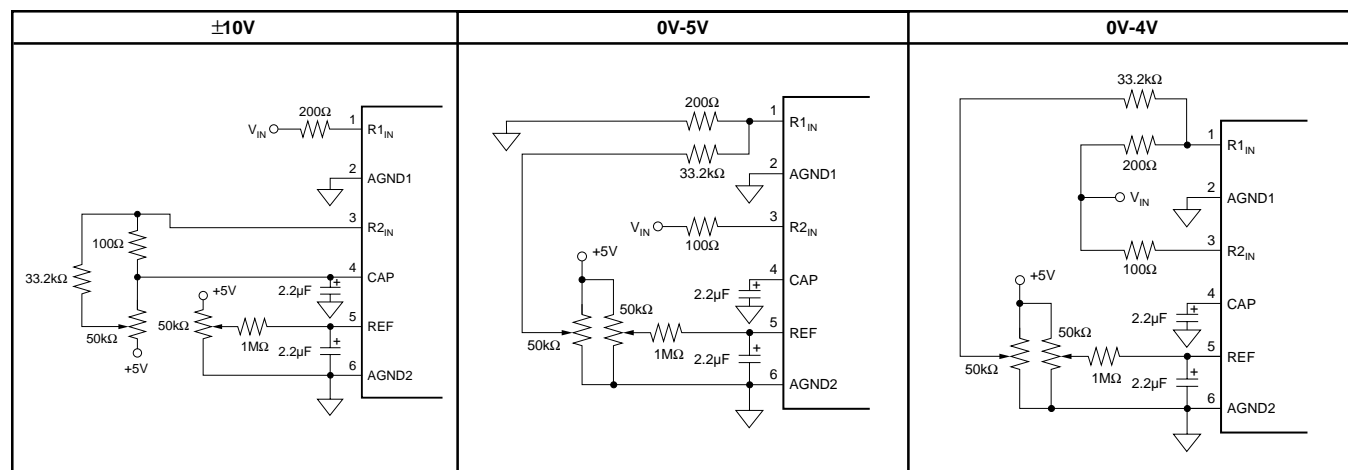
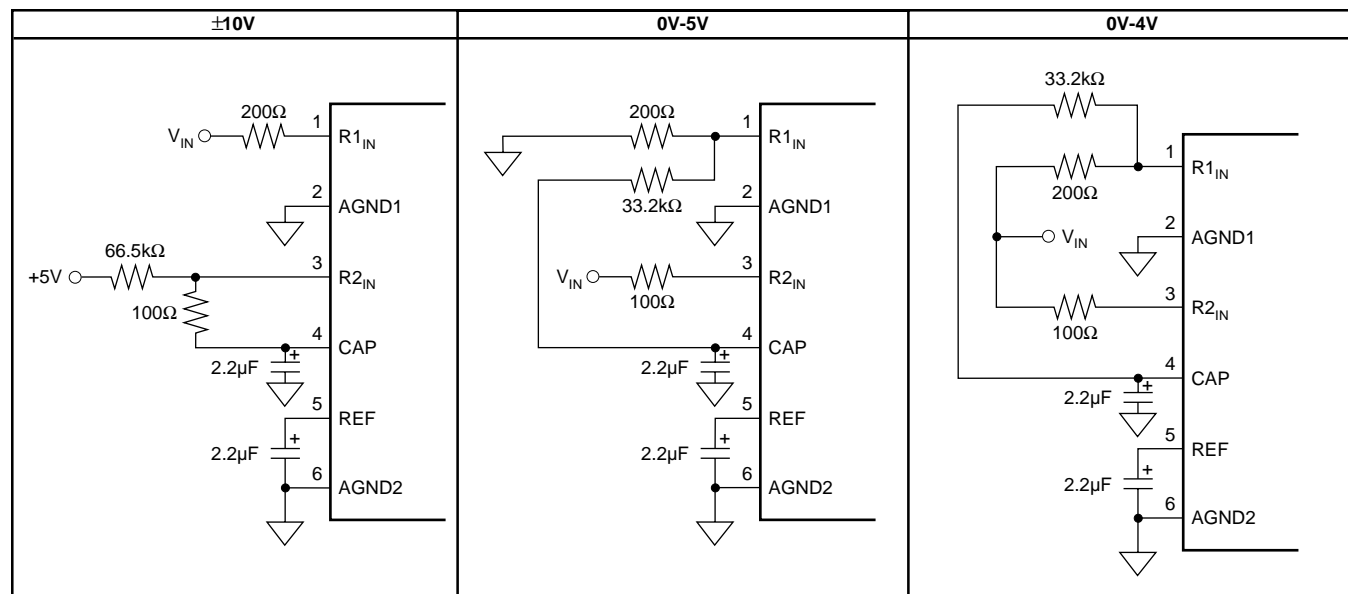
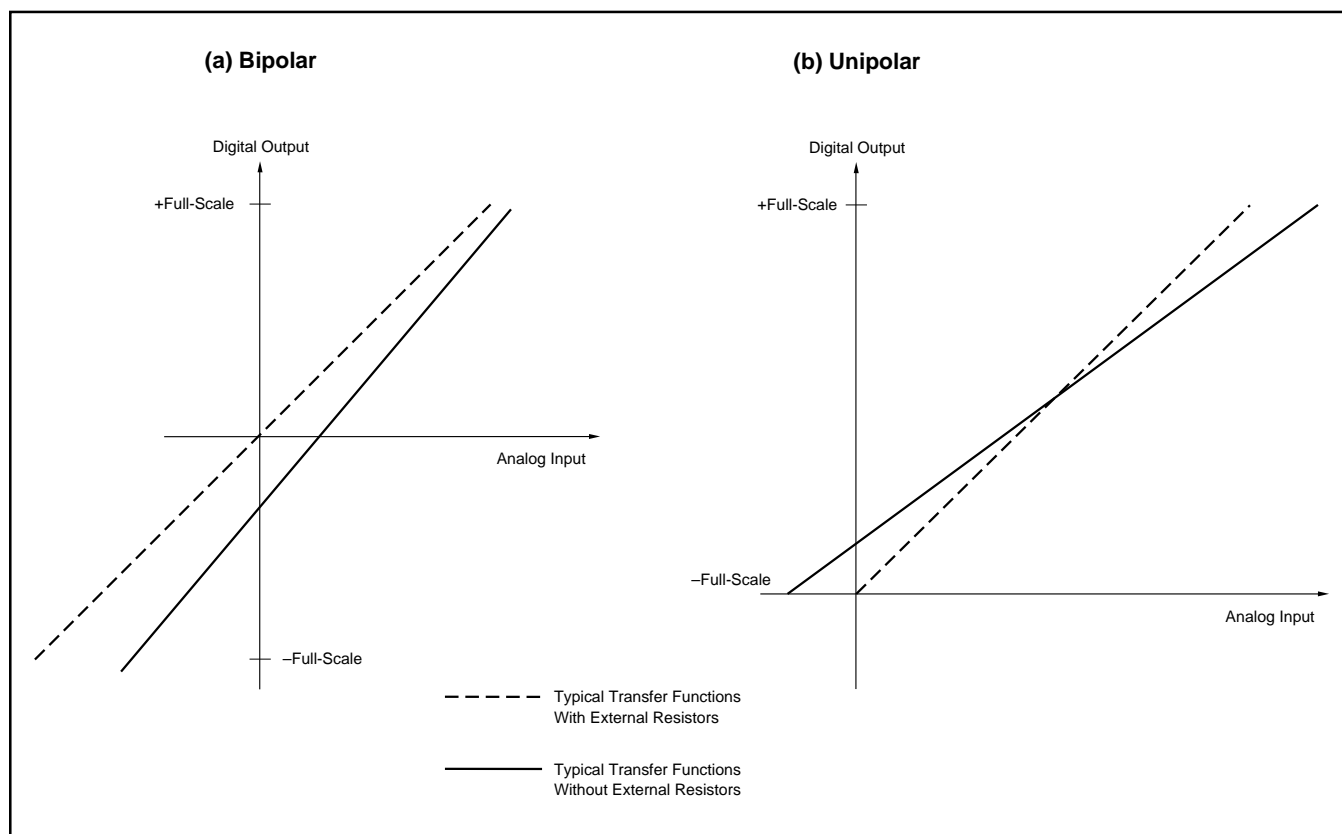

FIGURE 7a. Circuit Diagrams (With Hardware Trim).
FIGURE 7b. Circuit Diagrams (Without Hardware Trim).
FIGURE 8. Typical Transfer Functions With and Without External Resistors.
The ADS7807 offers three input ranges: standard  $\pm 10V$  and 0V-5V, and a 0V-4V range for complete, single-supply systems. See Figures 7a and 7b for the necessary circuit connections for implementing each input range and optional offset and gain adjust circuitry. Offset and full-scale error(1) specifications are tested with the fixed resistors, see Figure 7b. Adjustments for offset and gain are described in the Calibration section of this data sheet.
used for each input range (see Figure 8). The input resistor divider network provides inherent over-voltage protection to at least  $\pm 5.5\text{V}$  for  $R2_{IN}$  and  $\pm 12\text{V}$  for  $R1_{IN}$ .
To calibrate the offset and gain of the ADS7807 in hardware, install the resistors shown in Figure 7a. Table VI lists the hardware trim ranges relative to the input for each input range.
To calibrate the offset and gain in software, no external resistors are required. However, to get the data sheet specifications for offset and gain, the resistors shown in Figure 7b
TABLE VI. Offset and Gain Adjust Ranges for Hardware Calibration (see Figure 7a).
Figure 7b shows circuit connections. Note that the actual voltage dropped across the external resistors is at least two orders of magnitude lower than the voltage dropped across the internal resistor divider network. This should be consid-
The external resistors, see Figure 7b, may not be necessary in some applications. These resistors provide compensation for an internal adjustment of the offset and gain which allows calibration with a single supply. Not using the external resistors will result in offset and gain errors in addition to those listed in the electrical characteristics section. Offset refers to the equivalent voltage of the digital output when converting with the input grounded. A positive gain error occurs when the equivalent output voltage of the digital output is larger than the analog input. Refer to Table VII for nominal ranges of gain and offset errors with and without the external resistors. Refer to Figure 8 for typical shifts in the transfer functions which occur when the external resistors are removed.